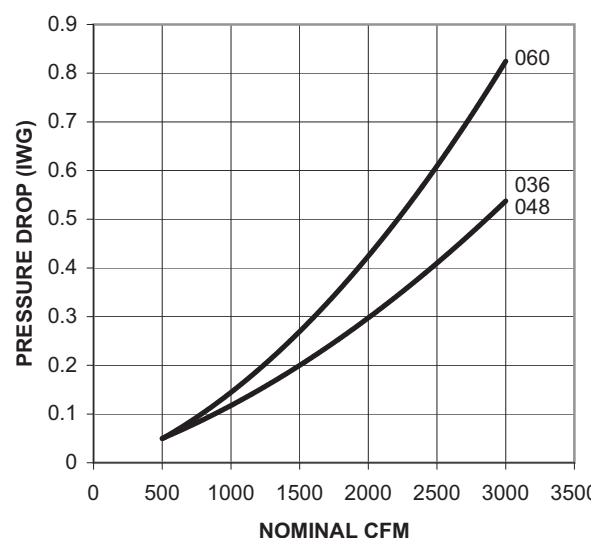

Figure 22: Pressure Drop Across Coil
4. Knowing the pressure drop across a dry coil, the actual CFM through the unit can be determined from the curve in Pressure Drop vs. Supply Air CFM (Figure 22).